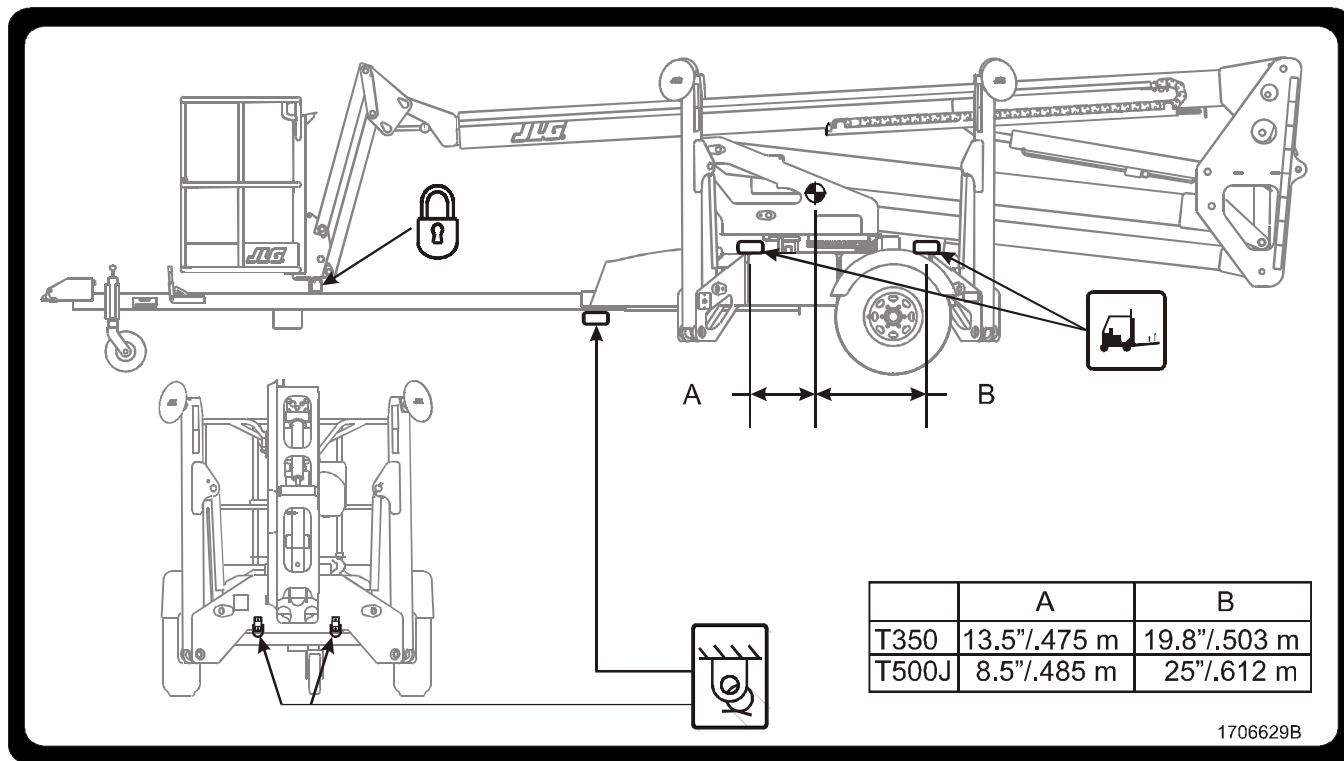

Figure 5-8. Lifting and Tie Down Chart
1. Place the boom in the stowed position and secure with the transport latch. (See Figure 5-8.)
3. Secure the chassis and the platform using straps or chains of adequate strength and attached to the designated tie down points. (See Figure 5-8.)